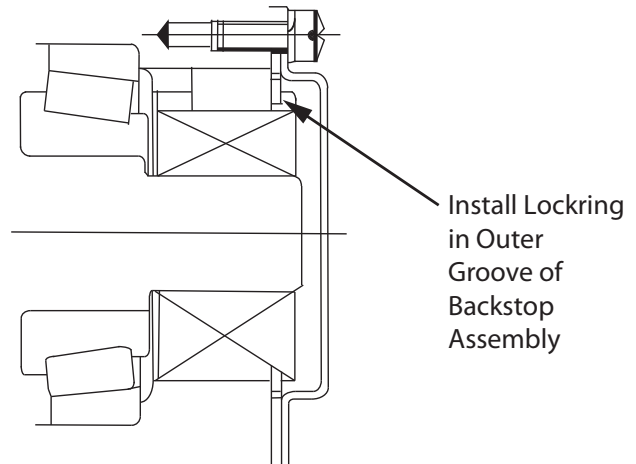

Figure 1 - TXT3B
1. TXT1 thru TXT6 — When replacing failed backstop, inspect shaft end for condition. Journal should be smooth and free of damage. See Fig. 1.